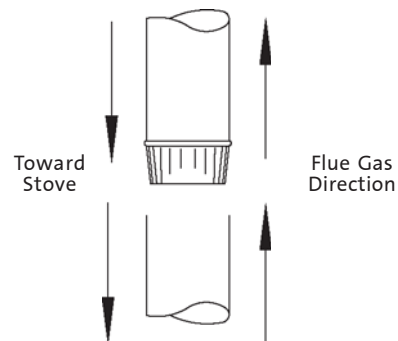

Figure 3. Chimney connector orientation.
- (crimped) end pointing toward the stove. See fig. 3.